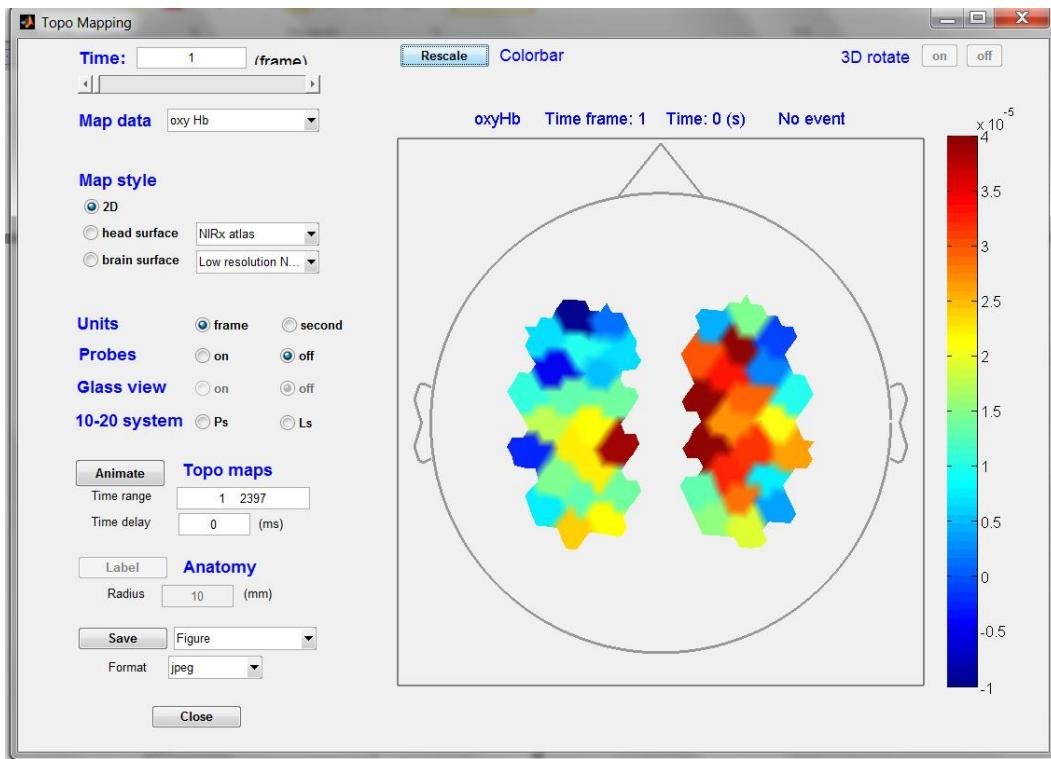

Figure 5-62. The color-rescaled topographic map.
Step 3: Click the **OK** button to close the text field window. You will see an updated map, with the new color scale, in Figure 5-62: